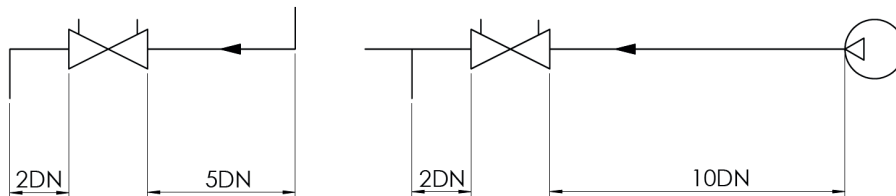

Fig.1
Installation and connections with DPCV mounted in the return pipework (Fig 1)
The capillary pipe connection is shown in fig.1
- In order to ensure that valve works properly, it is important to ensure that the differential pressure  $\Delta H$  user unit connection to the riser (upstream of the valve) has at least twice value of the differential pressure  $\Delta P$  across the user unit ( $\Delta H > 2,5 \times \Delta P$ ), see Fig. 1.